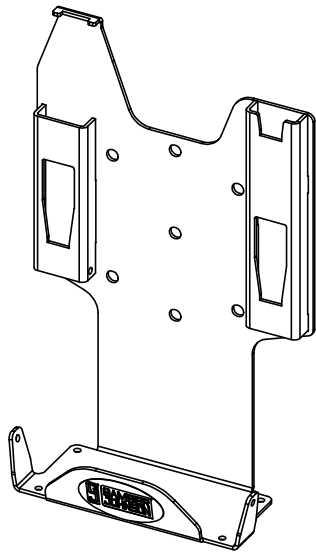

Figure 1
- There are seven 1/4" mounting holes on the wall portion of the mount, (4) holes are in the VESA 75mm pattern and (3) holes are in a straight line and can be used for installing the mount to a stud within a wall. Place the wall portion of the mount in the desired location (ensure it is level) and mark the mounting hole locations on the wall with a pencil. If you are using 1/4" x 1" lag screws (included), drill 3/16" pilot holes then fasten the mount to the wall. (See Figure 1).